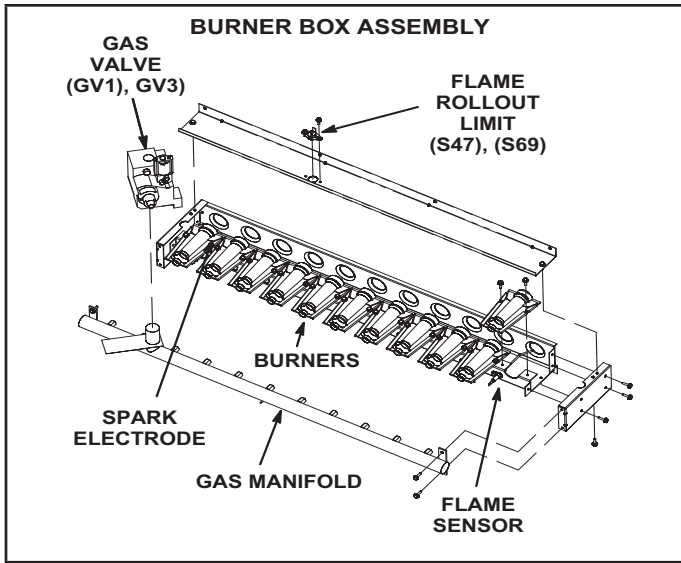

FIGURE 30
- 3 - Remove screws securing burners to burner support and lift the individual burners or the entire burner assembly from the orifices. See FIGURE 30. Clean as necessary.